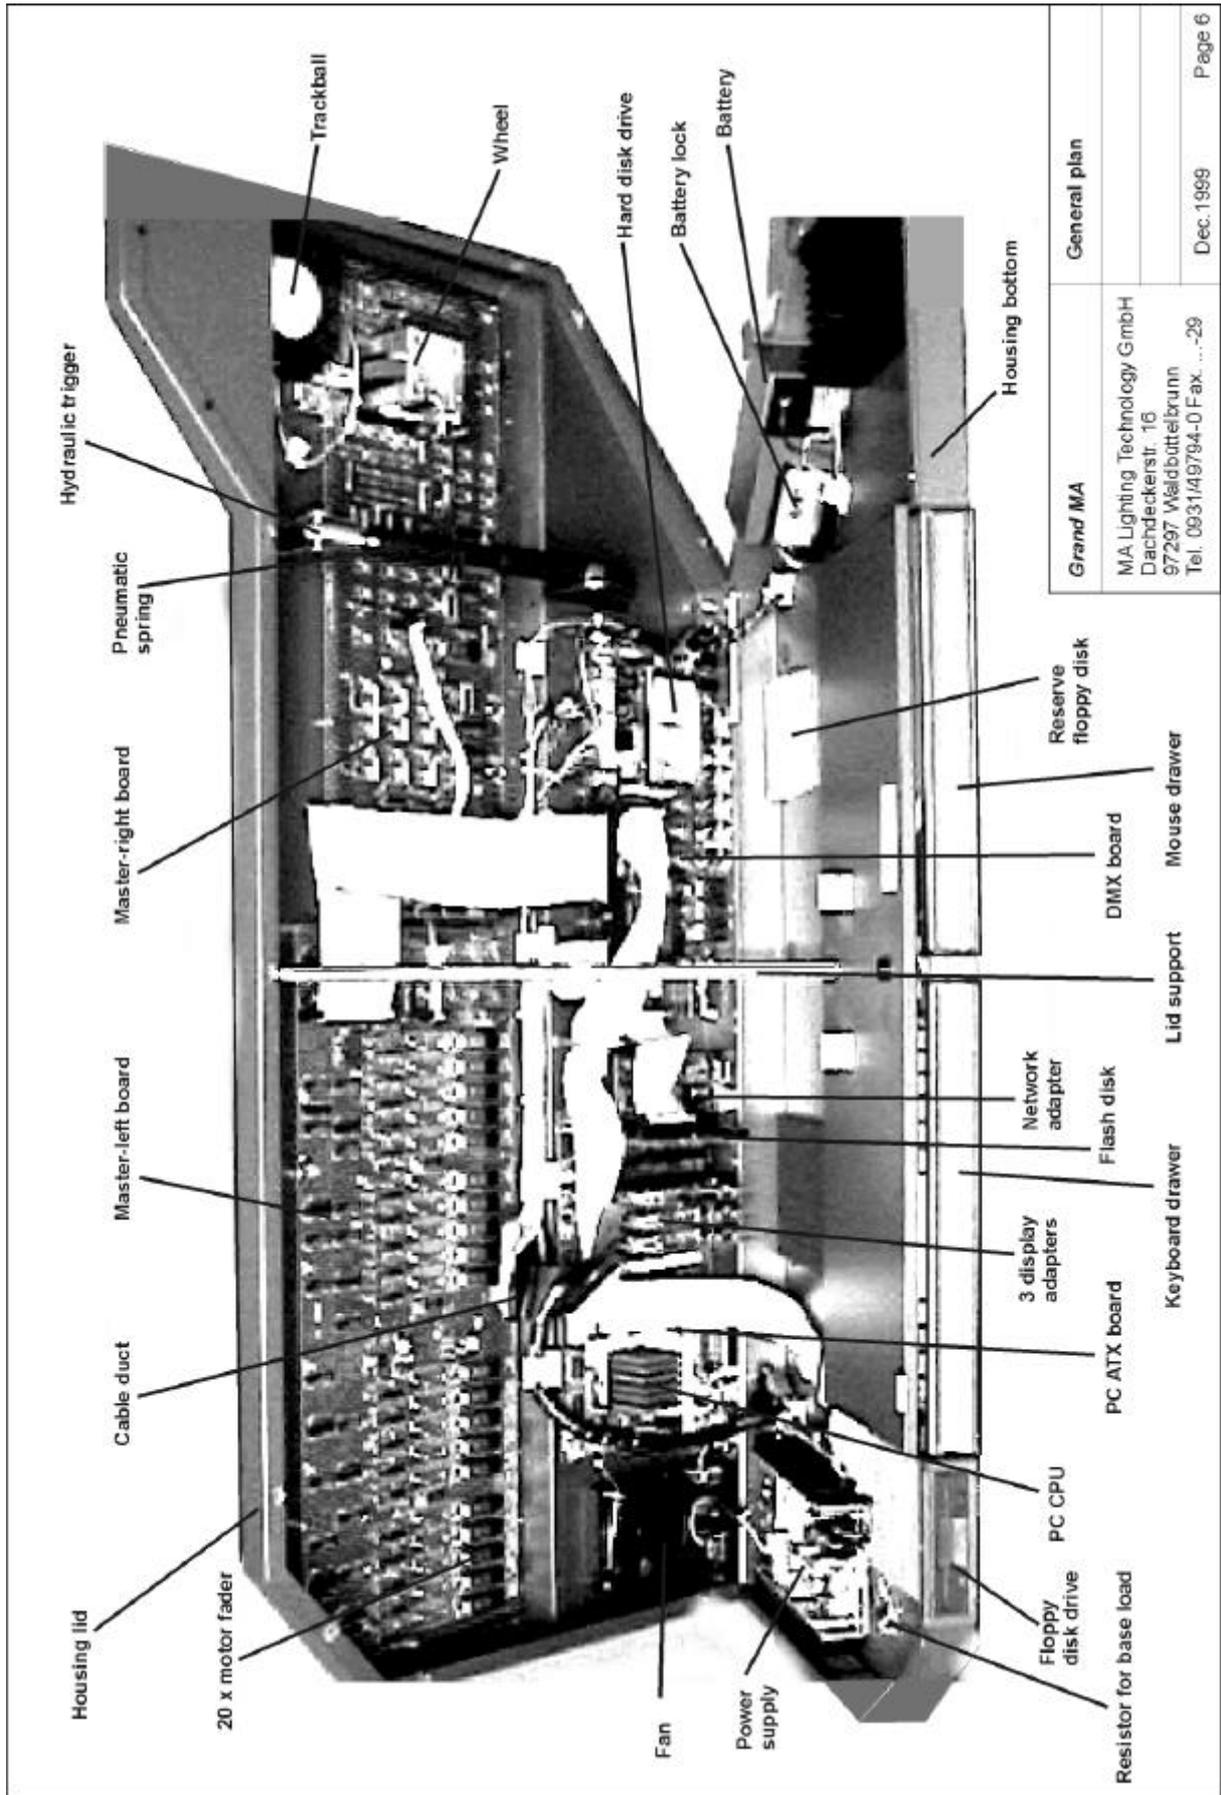

Fig. 1 (Removing the HDD / the DMX board)
- 1.3. Remove the fastening screws on the back panel of the unit (see fig. 1).